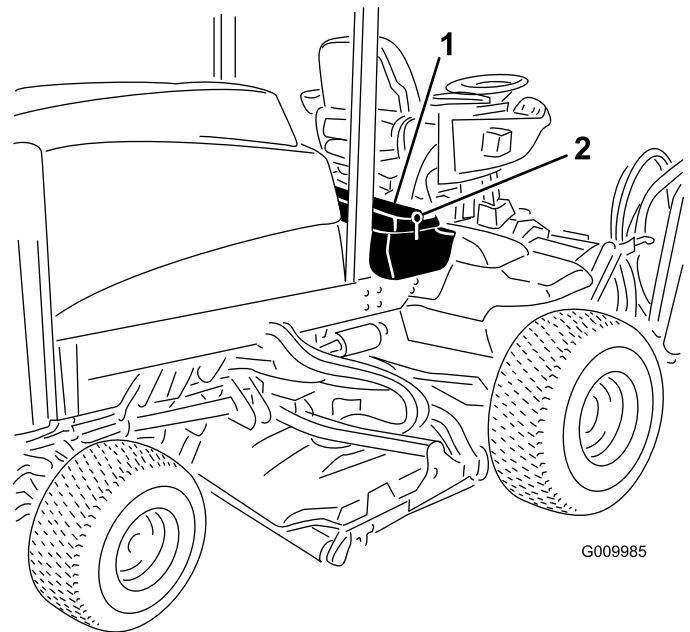

Figure 47
1. Unlatch and raise the operator's console panel (Figure 47).